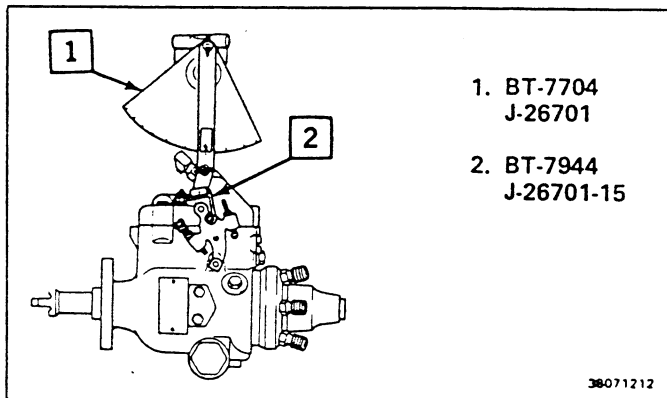

Fig. 6C5-9 Vacuum Regulator Valve Adjustment
9. Attach vacuum source such as BT-7517 or J-23738 vacuum pump to port A. Install vacuum gage to port B. Apply 75 kPa (22" HG) of vacuum to port A, Fig. 6C5-10 or 6C5-11.